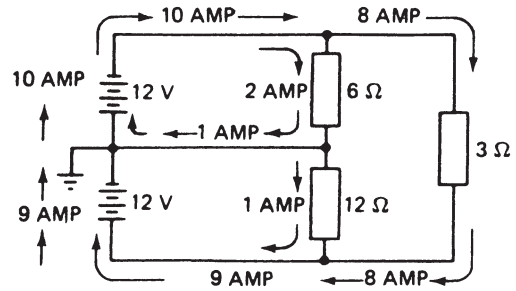

FIGURE 7-16 Unbalanced system using high and low voltage.
The circuit in Figure 7-16 shows the lower voltage—as well as the higher voltage—components in an unbalanced system. In each junction, the current entering the junction is equal to the current leaving the junction. Ohm's law is true for each component of the system.
The relationship shown in Figure 7-16 parallels that of the 240/120 systems used in homes. The voltage levels in homes are different from those shown with batteries, but the circuit relationships are the same.
10. Refer to Figure 7-16. The voltage across the 3-ohm resistor is _____ volts.